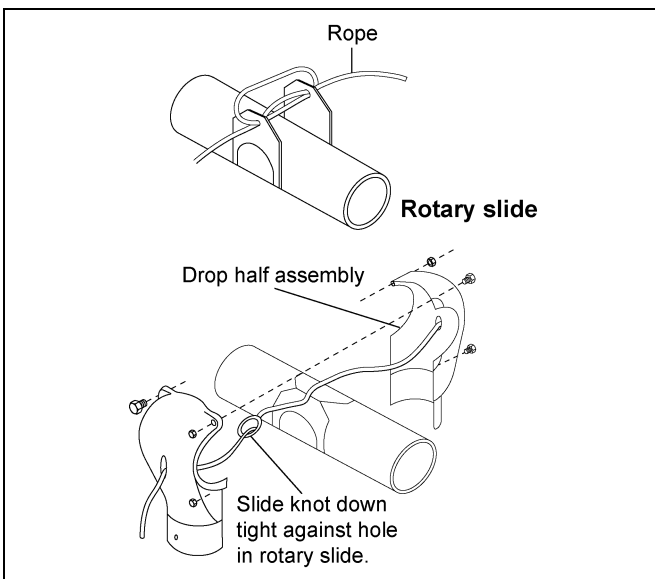
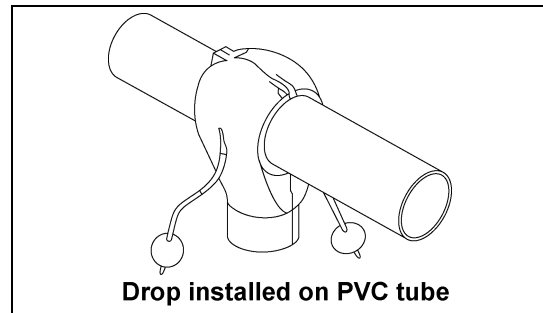

Figure 1B
Figure 1C
3. Thread the rope through the ends of the rotary slide as shown in Figure 1B and tie the slide ends together so that the ends of the rope are the same length.
5. Snap a hex nut in each of the four (4) hexagon shaped sockets on the drop halves. Push machine screws in the corresponding holes in each outlet half.
6. Fasten the two (2) halves together using screws threaded into the drop halves. (See Figure 1C.)